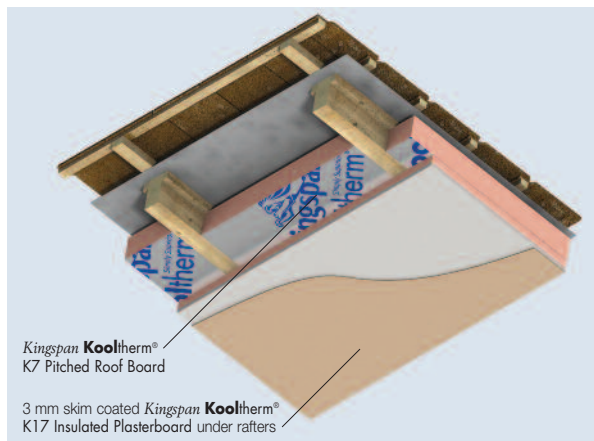

Figure 6 – Mechanically fixed to timber rafters with *Kingspan Kooltherm*® K7 Pitched Roof Board
- Sheets of *Kingspan Kooltherm*® K17 Insulated Plasterboard may be used to line ceilings (see Figure 6).